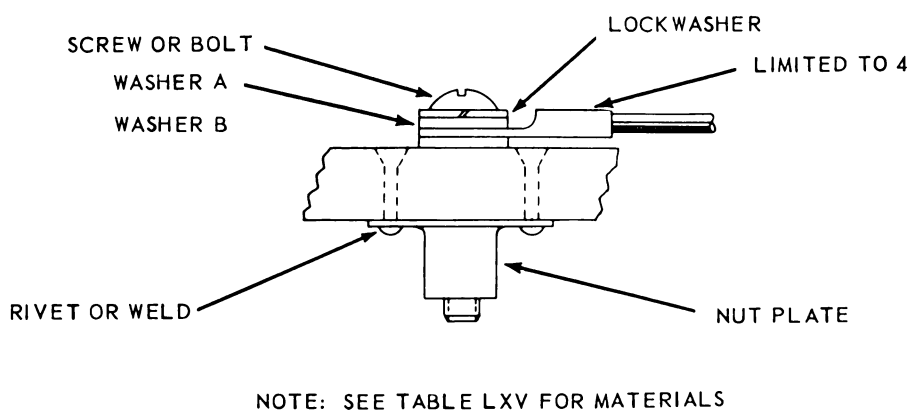

Figure 7-2. Plate Nut Bonding or Grounding to Flat Surface
(Refer to Figure 7-2)
b. Nut plate and bolt connection: (See Figure 7-2 and Table LXV) Nut plates are used where access to the nut for repairs may be difficult. Nut plates are riveted or welded to a clean area of the structure. Cleaning of structure is done in accordance with paragraphs 7-14 through 7-16 as applicable.
When terminal is under head of screw or bolt (as shown in Figure 7-2), it is preferable not to install more than one terminal. A loose screw with two terminals may cause inadvertent operation of equipment.